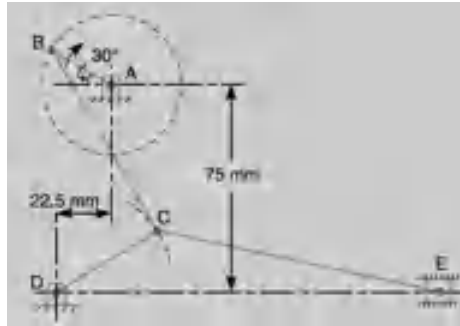

Fig 2
- b) The dimensions of the various links of a mechanism, as shown in Fig. 2, are as Follows  $AB = 30$  mm ;  $BC = 80$  mm ;  $CD = 45$  mm ; and  $CE = 120$  mm. The crank  $AB$  rotates uniformly in the clockwise direction at 120 r.p.m. Draw the velocity diagram for the given configuration of the mechanism and determine the velocity of the slider  $E$  and angular velocities of the links  $BC$ ,  $CD$  and  $CE$ . 10M